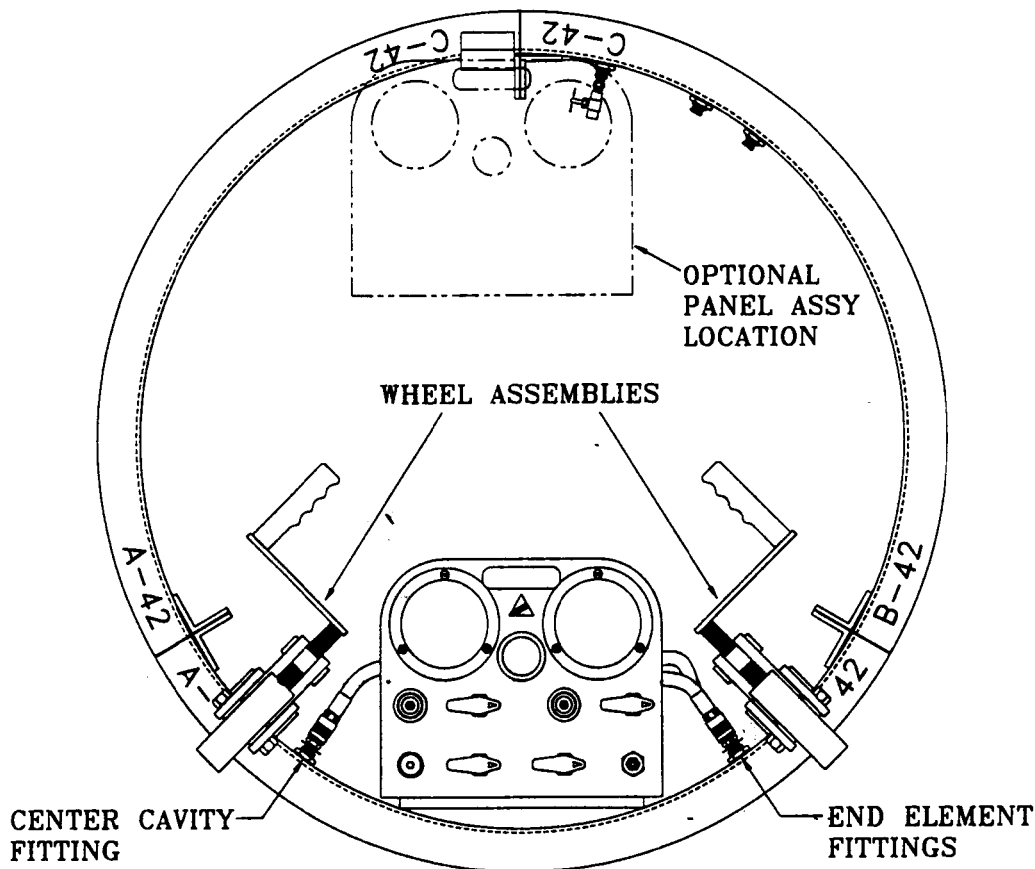

FIGURE 5
1. Refer to FIGURE 5. Using the 1/4-20 x 1/2" *bolts* and 1/4 *lock washers*, mount the *control panel* on the control panel *mounting pad* located at the bottom of the joint tester frame. A bracket is also included at the top of the weld assembly as an optional location for the control panel.
3. Refer to FIGURE 5. Fasten the *wheel assemblies* to the joint tester using the hardware pre-installed in step 1 on page 7.